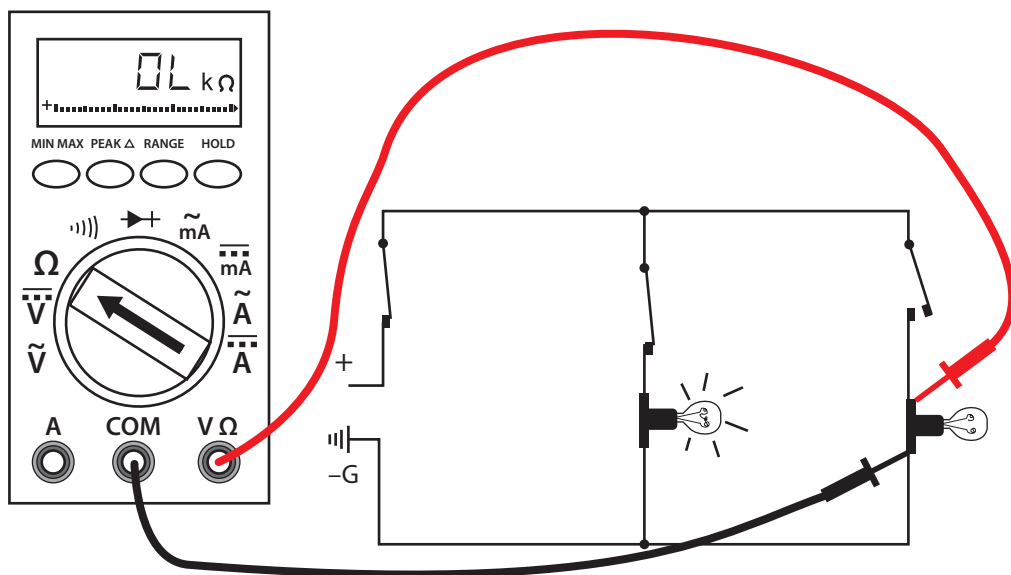

Figure 4— Ohm test of a load
- Connect the test lead and probes to the component terminals as shown (Figure 4).
- If the reading is infinite (I) or overloaded (OL), then the component is open.